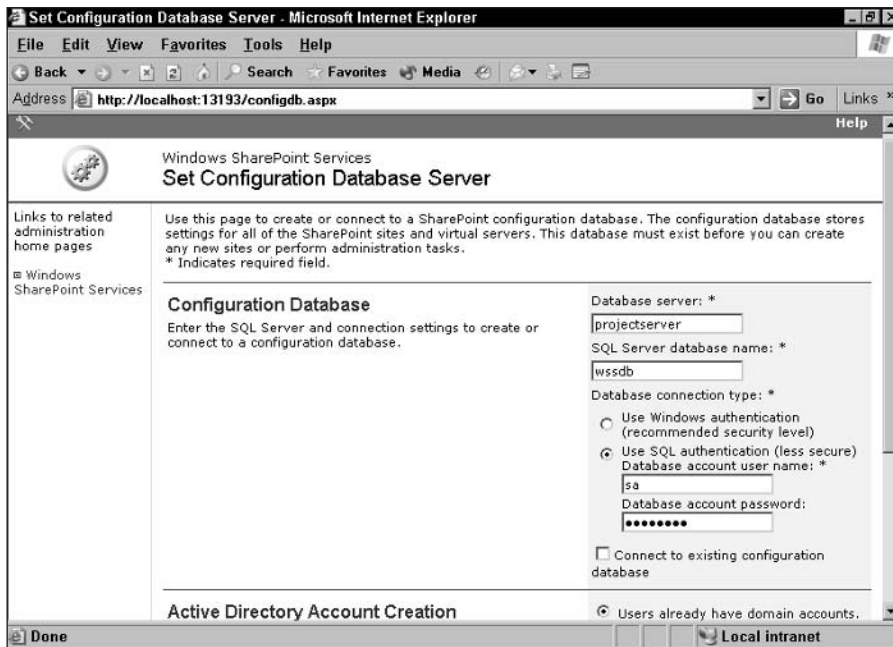

Figure 18-15: Use this page to create or connect to a SharePoint configuration database.
2. Without closing the Application Pool Changed page, choose Start→Run, and in the Run box, type **iisreset** and click OK. After restarting IIS, click the OK button on the Application Pool Changed page. The Set Configuration Database Server page appears (see Figure 18-15).